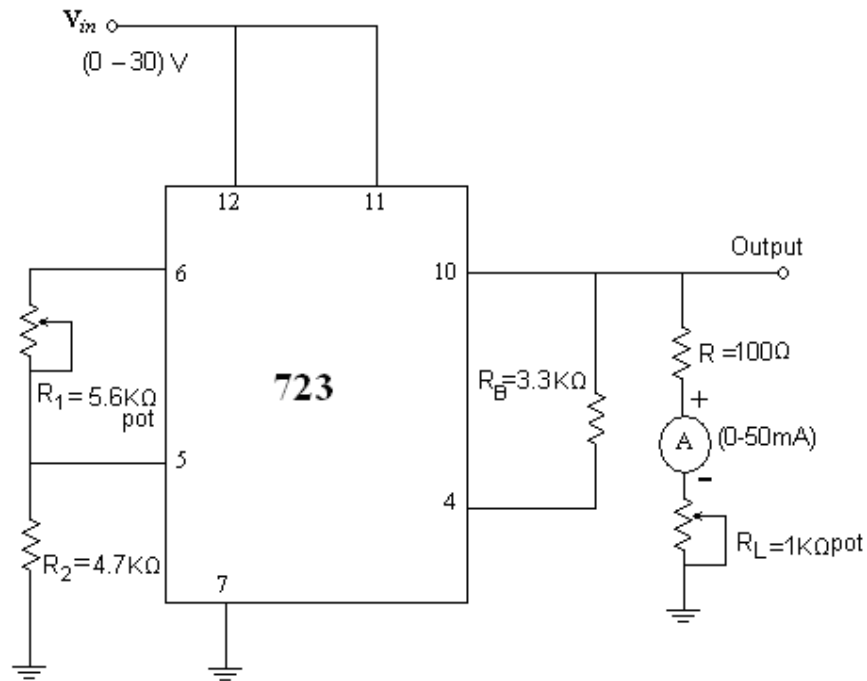

Fig1: Voltage Regulator
1. Connect the circuit as shown in fig 1.